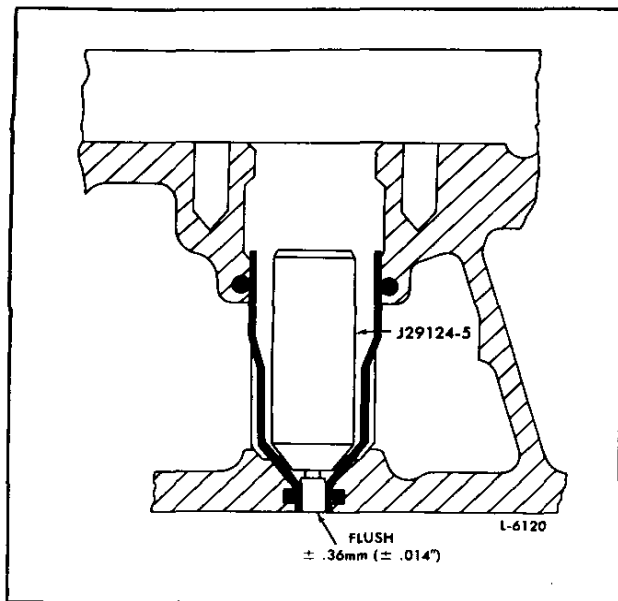

Fig. 6 - Measuring Relationship of Gage to Cylinder Head Fire Deck
c. Remove the chips from the injector tube. Then, using a protrusion gage J 29124-5 as a gage, continue the injector tube beveled seat reaming operation until the gage end is from flush to  $\pm .36$  mm ( $\pm .014$ ") with the firedeck surface of the cylinder head as shown in Fig. 6. A sled gage with a dial indicator is used to measure the protrusion gage dimension.